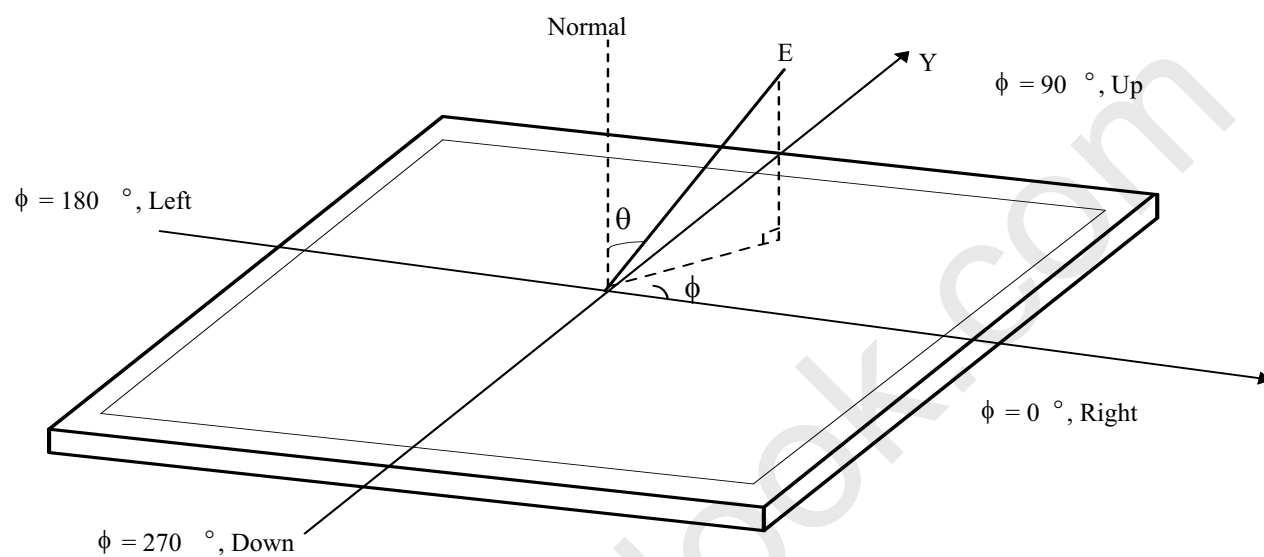

FIG.12 Viewing Angle
4. Response time is the time required for the display to transit from G(255) to G(0) (Rise Time,  $Tr_R$ ) and from G(0) to G(255) (Decay Time,  $Tr_D$ ).
5. Viewing angle is the angle at which the contrast ratio is greater than 10. The angles are determined for the horizontal or x axis and the vertical or y axis with respect to the z axis which is normal to the LCD module surface. For more information, see the FIG. 12.